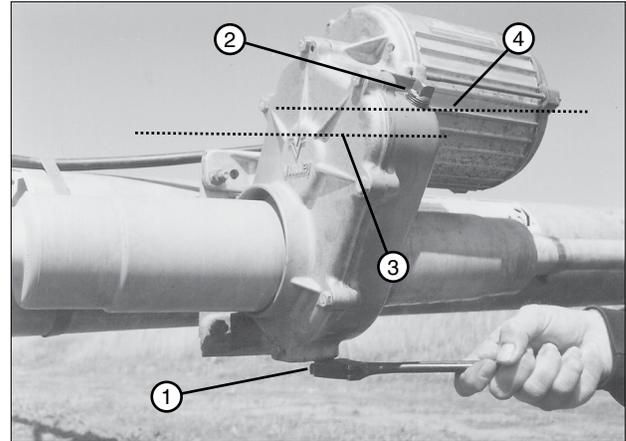

Figure 67-1 1. Drain Plug 2. Fill Plug 3. Oil Level 4. Bottom of Fill Plug Hole
1. Remove the drain plug and the fill plug. Drain the oil and install the drain plug. See Figure 67-1.
2. Fill the gearbox 1-7/8 in (48 mm) from the bottom of fill plug hole with Valley Gear Lube. The capacity of the gearbox is approximately 44 oz (1.3 liter). See Figure 67-1.